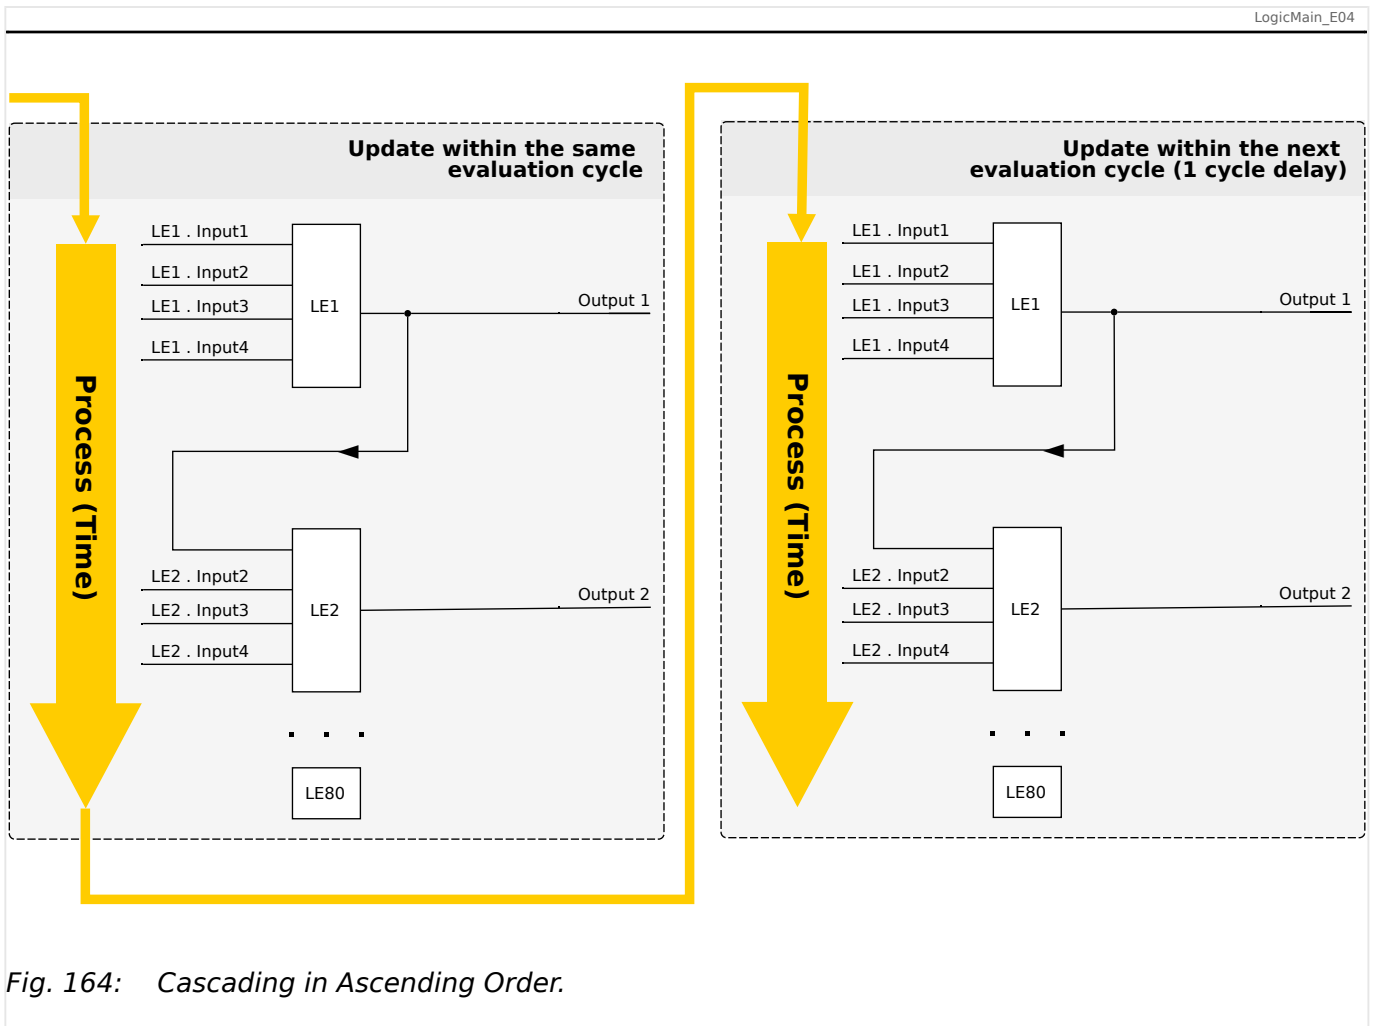
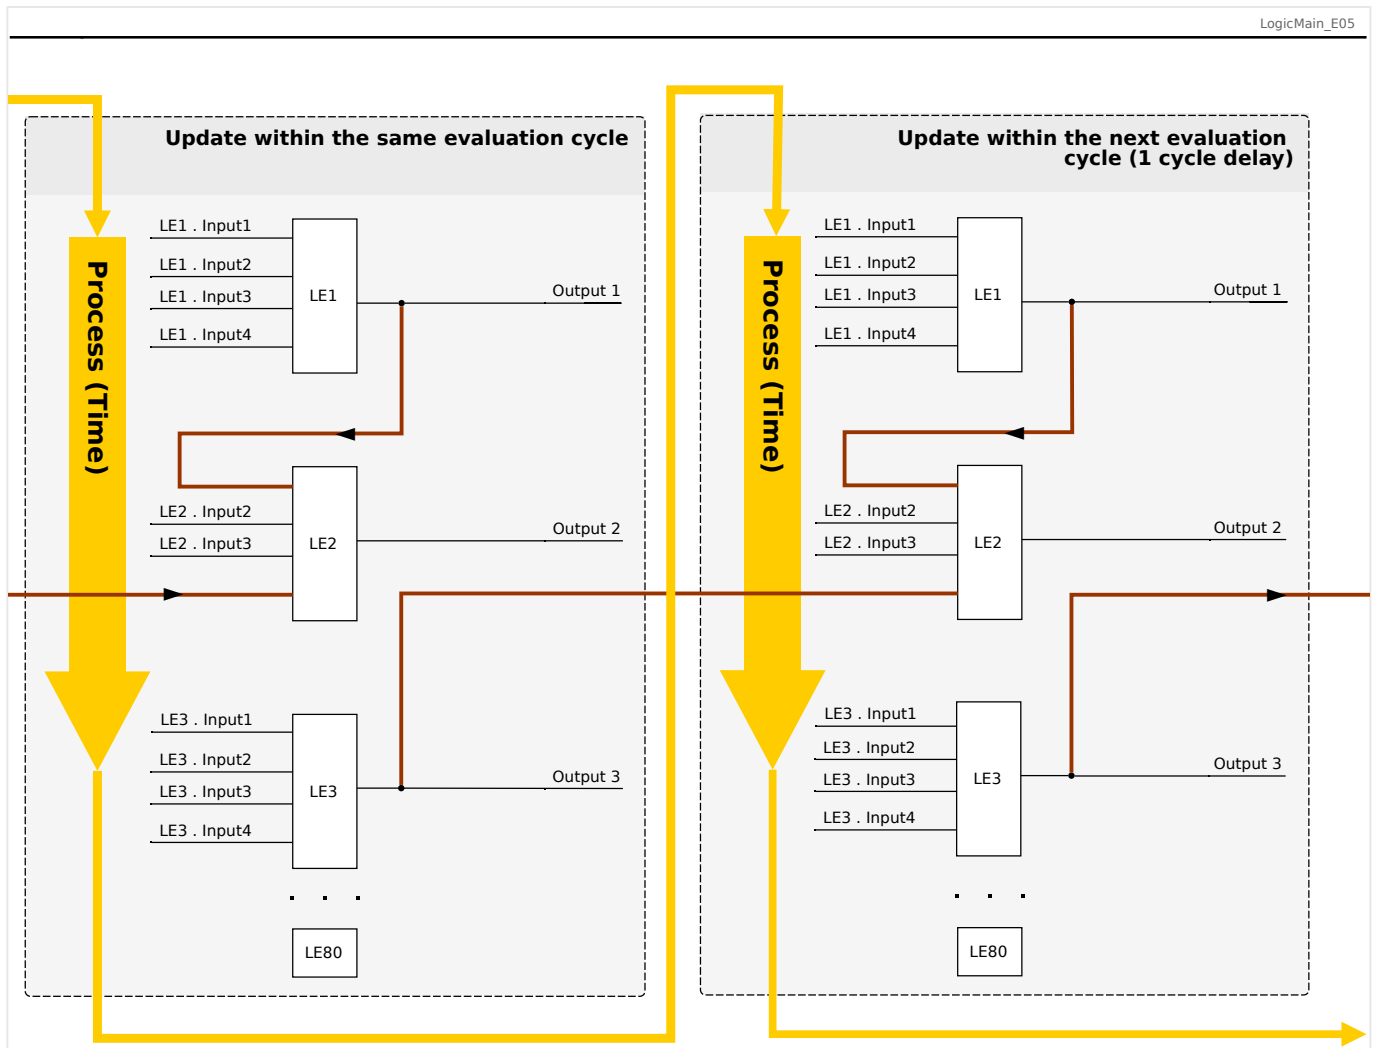

Fig. 164: Cascading in Ascending Order.
Fig. 165: Cascading in Descending Order.
- **Ascending** sequence means that some output is fed into the input of a logic equation with **higher** number. For instance, diagram  Fig. 164 below shows an example where the result of Logic Equation LE1 is used as an input of Logic Equation LE2.
- **Descending** sequence means that some output is fed into the input of a logic equation with **lower** number. For instance, diagram  Fig. 165 shows an example where the result of Logic Equation LE3 is used as an input of Logic Equation LE2.
Both ascending and descending sequences may be used and combined one with the other, with no immediate difference. However, due to the evaluation of all equations in ascending order the actual run-time values that are fed in at the input of an equation will have a different “age”, as is shown in  Fig. 164 and  Fig. 165 below.
In the example shown in Fig. 165 above, “Logic Equation 2” uses the output states of two other equations, “Logic Equation 1” and “Logic Equation 3”. The result of “Logic Equation 1” is used in ascending order and has therefore been evaluated within the same process cycle. The result of “Logic Equation 3” is used in descending order and has therefore been evaluated in the previous process cycle.